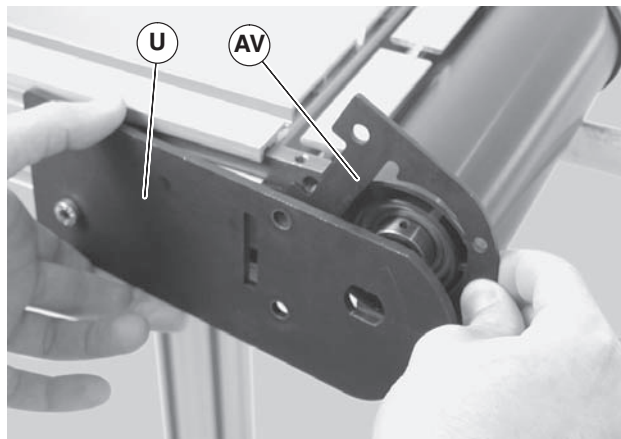

Figure 36
3. Pull back the outer headplate (Figure 36, item U) and remove the inner spacer (AV).